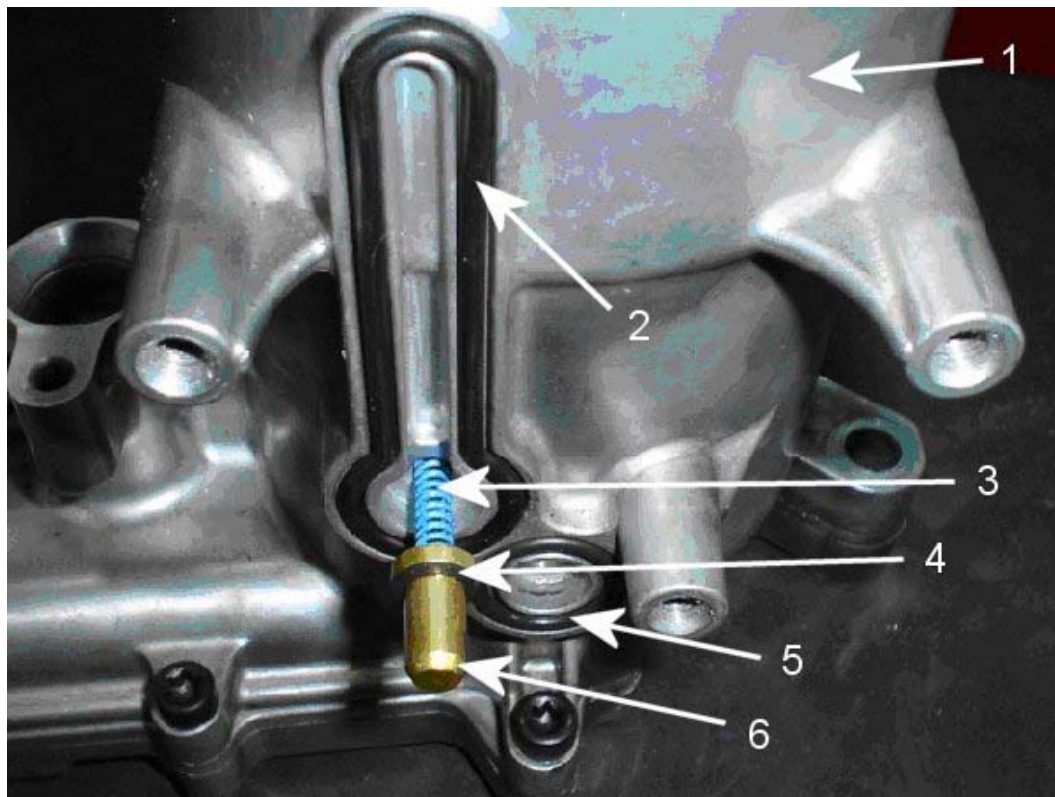

Figure 3 Oil Filter Housing
7. Remove the following components (Figure 3):